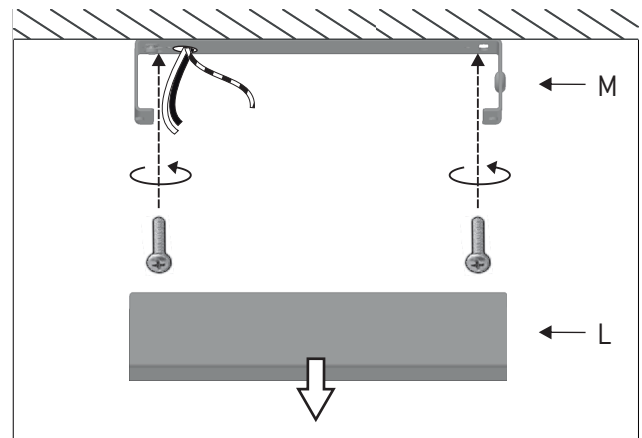

Figure 10
10 - Pull the canopy (L) down with force to remove the mounting bracket (M). Insert the main electrical cable through the mounting bracket and fix it to the ceiling. Figure 10.